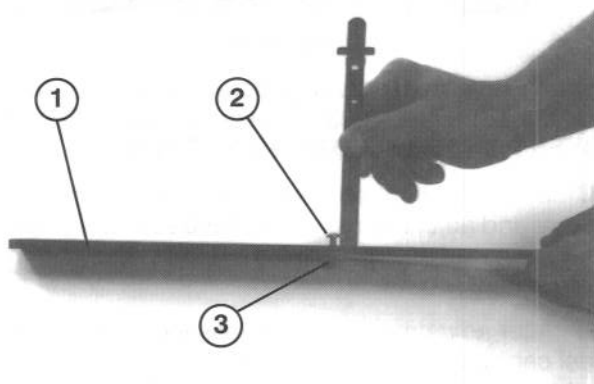

Figure 10
3. Loosen nut on gauge bar (Fig. 10) and set adjusting screw to desired height-of-cut. Distance between bottom of screw head and face of bar is height-of-cut.